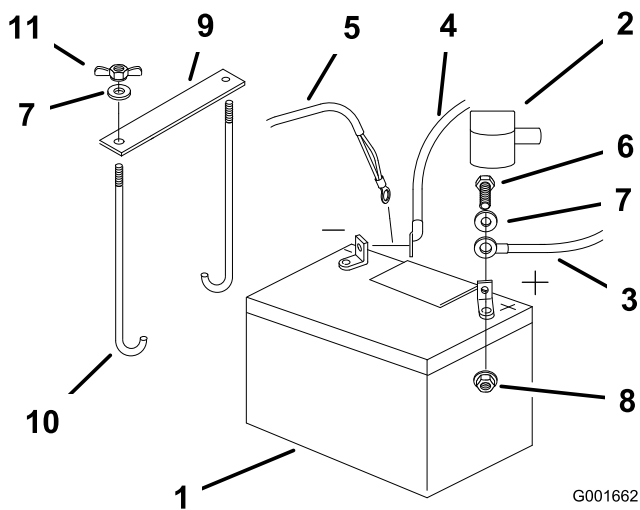

Figure 44
4. First disconnect the negative battery cable and ground wire from the negative (-) battery terminal (Figure 44).
5. Slide the red terminal boot off the positive (red) battery terminal. Then remove the positive (red) battery cable (Figure 44).
6. Remove both wing nuts (1/4 inch) securing the battery clamp (Figure 44).
1. Position battery in the tray with the terminal posts toward the engine (Figure 44).
4. Secure the cables with 2 bolts (1/4 x 3/4 inch), 2 washers (1/4 inch), and 2 locknuts (1/4 inch) (Figure 44).
6. Secure battery with J-bolts, hold down clamp and 2 washers (1/4 inch), and 2 wing nuts (1/4 inch) (Figure 44).